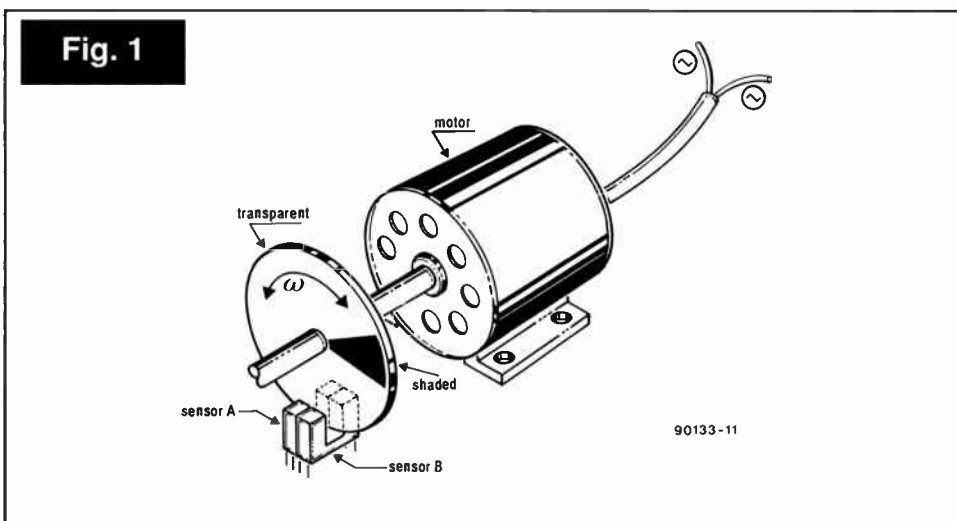

Fig. 1
**M**OST left / right revolution counters are based on a shutter fixed on the axle of the motor that interrupts two infra-red sensors—see Fig. 1. Whether the counter counts up or down depends on which IR sensor is interrupted in the first place. Most constructors connect the IR sensors directly to the input of the counter. The minimum distance between the sensors is normally 5 mm.
The method of counting is based on the traditional shutter and two IR sensors as shown in Fig. 1. The counter must count UP when the sensors are interrupted in the sequence shown in Fig. 2a. Logic high means that the sensor is interrupted; logic low that it is not interrupted.